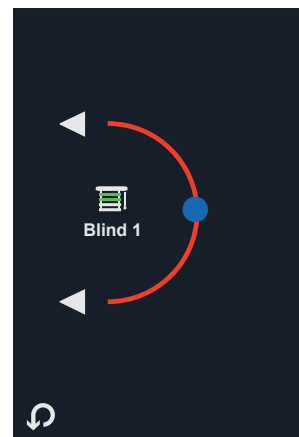

Fig. 7b 'Tilt'
- Rotary movement 'Tilt' (Fig.7b)